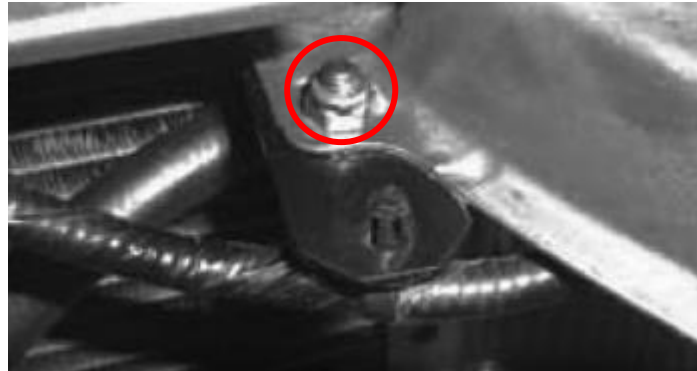

Figure 4: Right Hand Side Bracket Mounted
4. Locate the RHS bracket between the RHS power steering mounting bracket and power steering pipe as seen in figure 4.